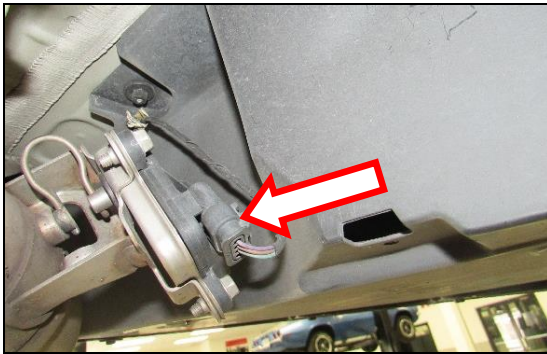

Figure 4
4. Unplug the connector at the exhaust valve (**Figure 4**).